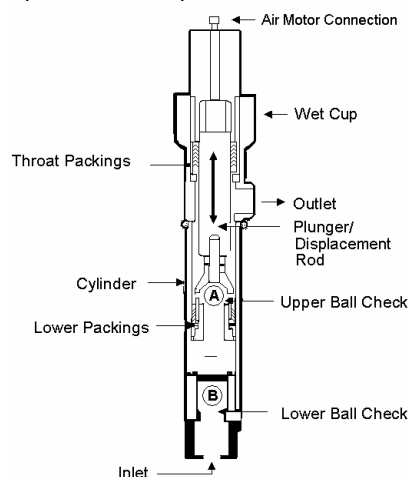

Figure 2 – 2 Ball Fluid Section
During the upstroke, the lower ball (B) raises allowing coating to enter the lower portion of the fluid section. Coating in the upper portion of the fluid section is pushed out of the outlet. The upper ball (A) remains closed. (see to Figure 2)